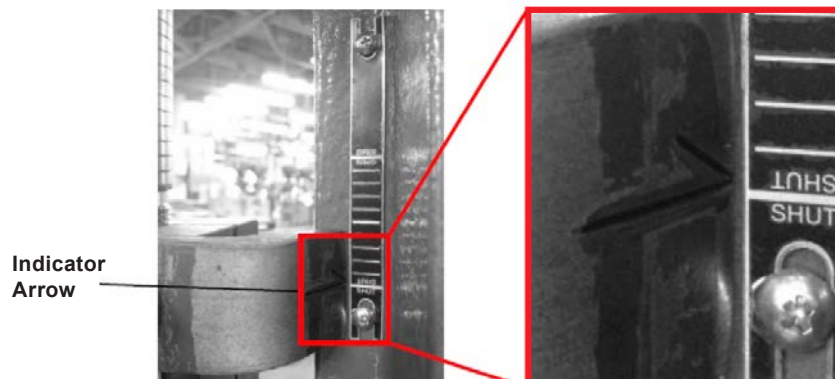

Figure 2 - Indicator Arrow
- Adjust the indicator plate to the correct position, as shown in Figure 2.